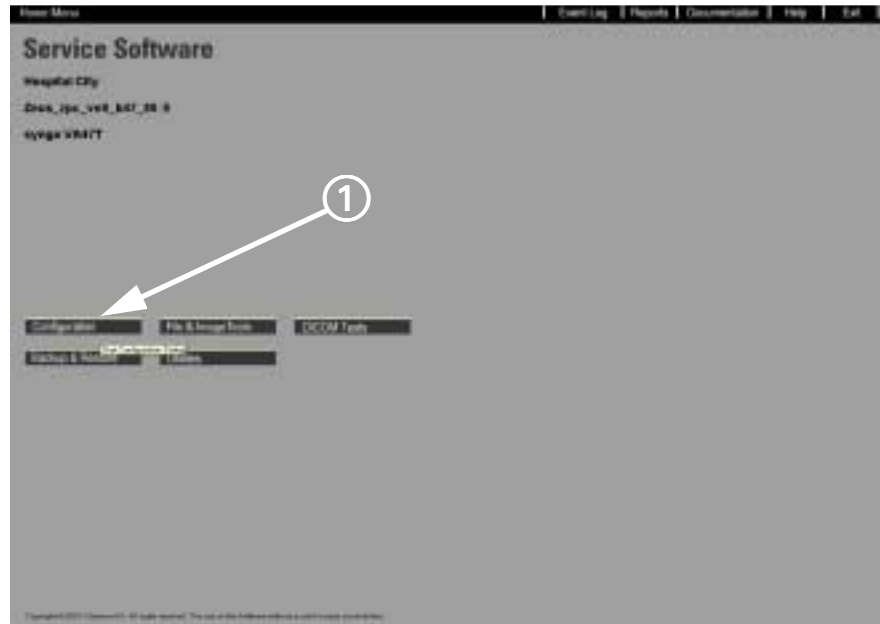

Figure 13-3 Syngo Service (Home Menu)
4. Click on *Configuration* button (① in Figure 13-3) to bring up Syngo Service Options List screen.